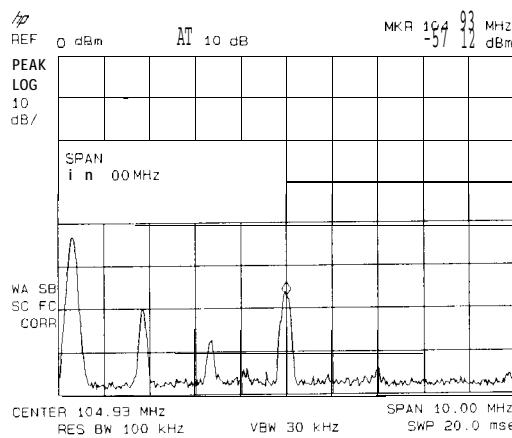

Figure 3-16. Low-Level Signal
5. Reduce the span to 10 MHz. Press **(SPAN)**, and then use the step-down key (**↓**). See Figure 3-16.